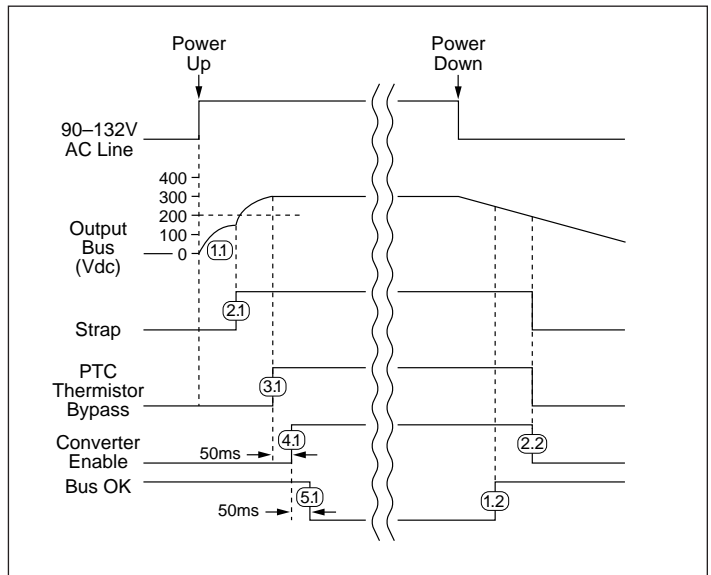

Figure 8—Timing diagram: power up/down sequence
**Power-Up Sequence.** (see Fig. 8):
**Power-Down Sequence.** (see Fig. 8) When input power is turned off or fails, the following sequence occurs as the bus voltage decays: